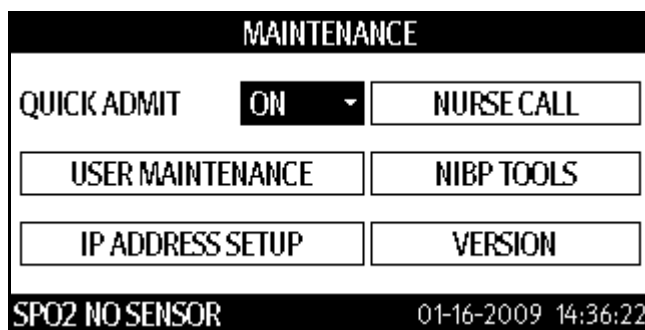

FIGURE 3-2 MAINTENANCE dialog
3. Once **MAINTENANCE** is highlighted, press  to display the MAINTENANCE dialog as shown in FIGURE 3-2.